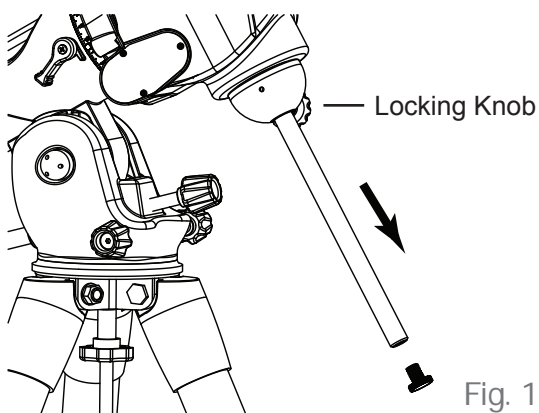

Fig. 1.4a
1. Loosen the knob for locking the counterweight rod and gently pull out the counterweight rod. Re-tighten the knob to secure the counterweight rod in place. (Fig. 1.4a)